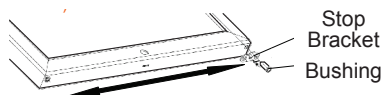

Figure 8
8. On bottom edge of door, transfer door stop bracket and bushing to holes on opposite side. (See Figure 8.)